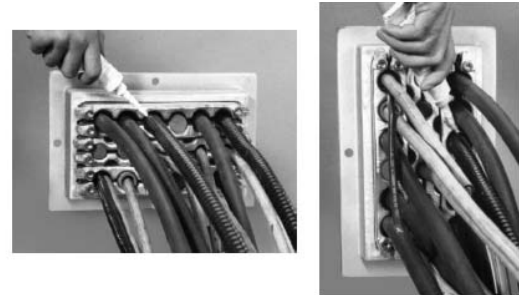

Figure 8.
- To ensure watertightness, it is recommended that General Electric RTV7403 or RTV106 High Temperature Sealant (or equivalent) be used to coat elliptical or corrugated armored cables immediately prior to tightening compression hardware of TWB Sealing Block Assemblies (see Figure 8).